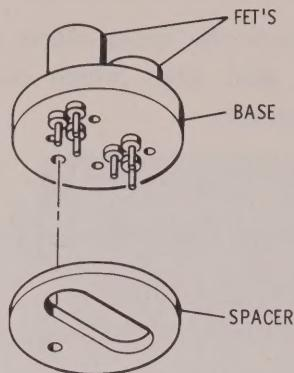

Figure 10. FET Assembly and Spacer
- Gently lift the FET Assembly and spacer from the circuit board. Refer to Figure 10.
- Insert the lead clamp compression spring and cap screw to hold the spacer and assembly in place against the printed circuit board. Refer to Figure 10.